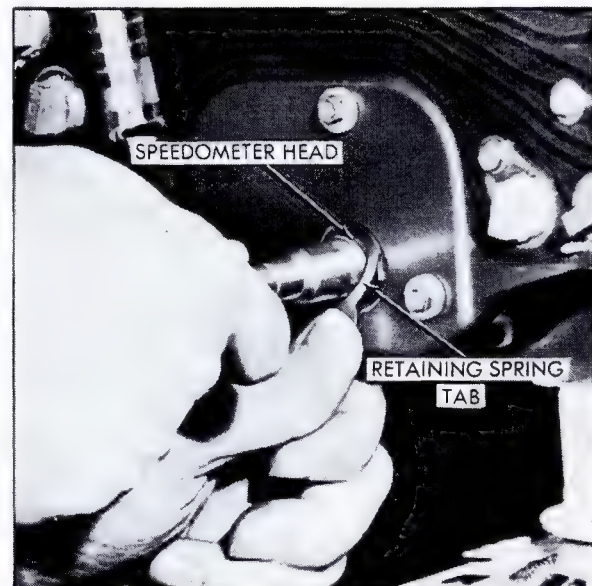

Fig. 12-39 Speedometer Cable
10. Disconnect speedometer cable from speedometer head by depressing retaining spring tab on speedometer head, Fig. 12-39.